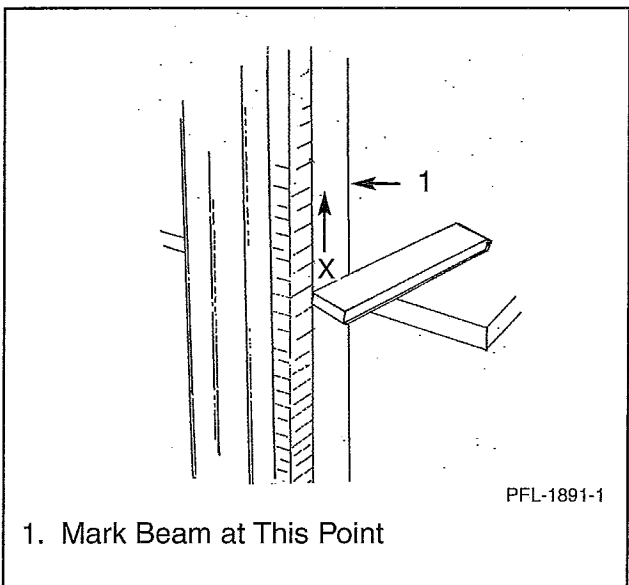

Figure 5
4. Using the measurement taken in Step 2, measure up the same number of inches from the mark you placed on the column in Step 3. See Figure 5.